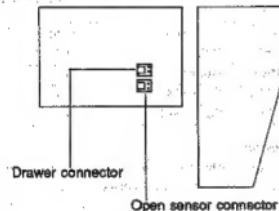

Fig. 3-18
- ③ Replace the main PWB.
- ④ Solder the 2-pin connector cable (OAGQCW230MKSS) to the micro switch as shown Fig.3-18.